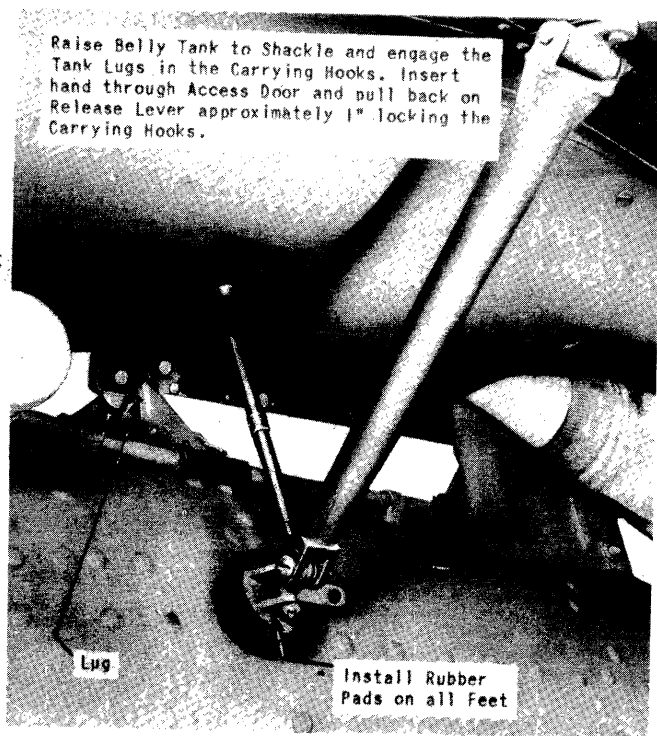

Figure 72 - Locking Carrying Hooks with Belly Tank Installed
(5) Raise the tank until the lugs on the top of the tank are inserted in the slots on the bomb shackle. (See figure 72.)
(6) Insert a hand through the fuel drain access door as illustrated in figure 72, push the two carrying hooks up to the lock position and pull back on the release lever on the bomb shackle approximately 1 inch to engage the carrying hook locks.
insert a hand in the access door as illustrated in figure 72 and pull back on the release lever as far as possible. This will release the carrying hooks and allow the tank to drop free of the shackle. Use extreme caution when removing the tank not to damage the short feed line connection on top of the tank. Remove the tank from under the airplane and if the tank is not completely empty of fuel be sure and keep the tank upright until it is thoroughly drained. Spilling fuel creates a dangerous fire hazard and extreme care should always be exercised against spilling fuel on depot or hangar floors. If fuel is accidentally spilled, clean it up immediately.